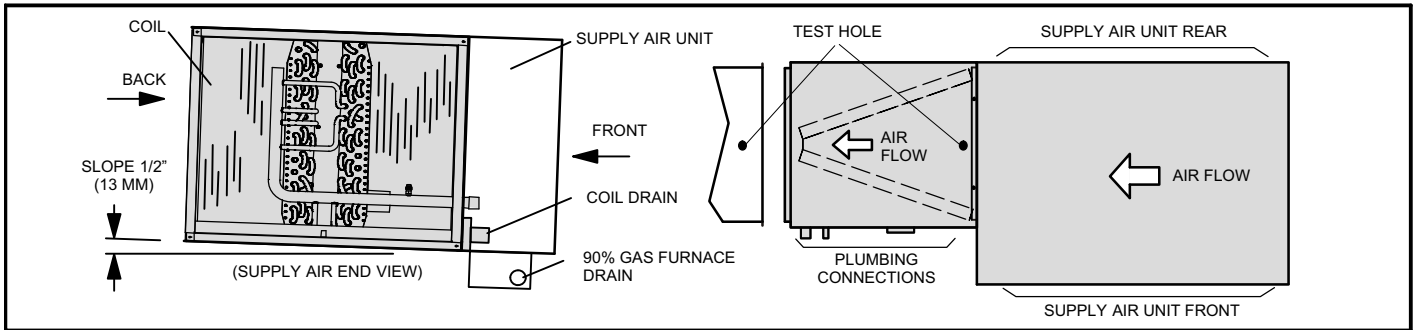

Figure 3. Left-Hand Air Discharge
- 1. Left-Hand and Right-Hand Discharge** — The coil must have a 1/2" slope from the rear of the cabinet to the drain. Position the coil adjacent to the furnace cabinet and align the six screw clearance holes in the coil casing with the furnace engagement holes. Use six field-provided #8 X 1" screws to secure the coil casing to the furnace (see figures 3 and 4).